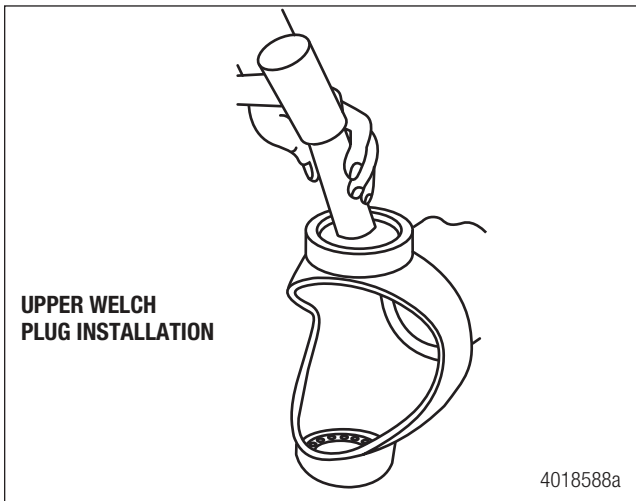
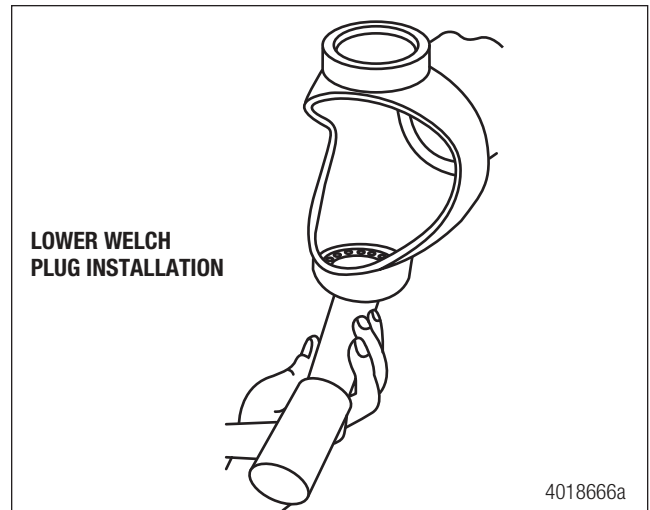

Figure 7.4
Figure 7.5
- Using an appropriate tool (see note below), deform (flatten) the welch plug to seal the housing. Ensure the welch plug is convex (bowed) toward the king pin. Figure 7.4 and Figure 7.5.